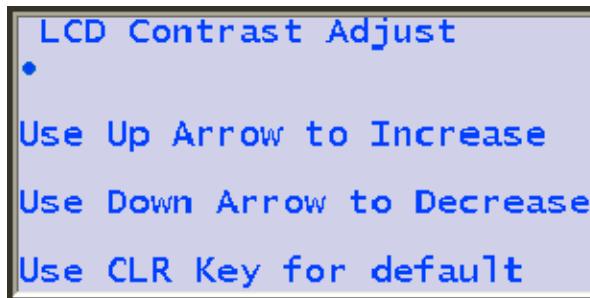

Figure 2-19. LCD Contrast Adjust Screen
- (1) Press the FNC key, press the NAV key. The AIS Main System Menu screen will appear.
- (2) Using the down arrow key, select LCD Contrast Control, and press the ENT key. The LCD Contrast Control screen will appear. (Refer to Figure 2-19.)
- (3) Use the Left or Up arrows to decrease the contrast, or use the Right or Down arrows to increase the contrast.